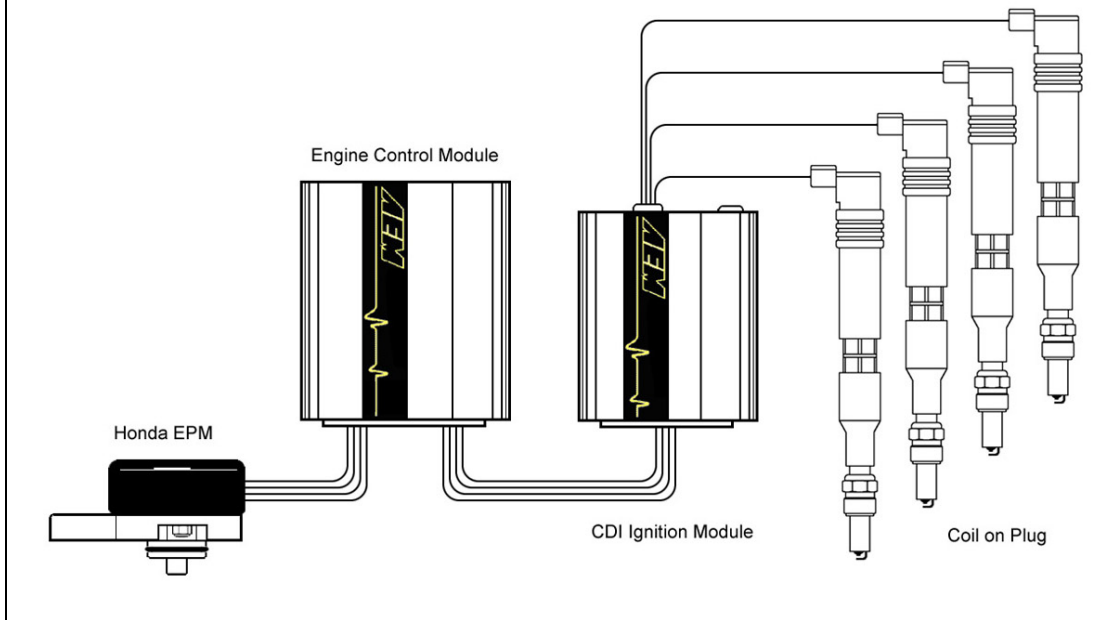

Figure 7.
- c) Figure 7 shows a typical system diagram for the Honda EPM using an aftermarket engine management system and coil on plug ignition system.